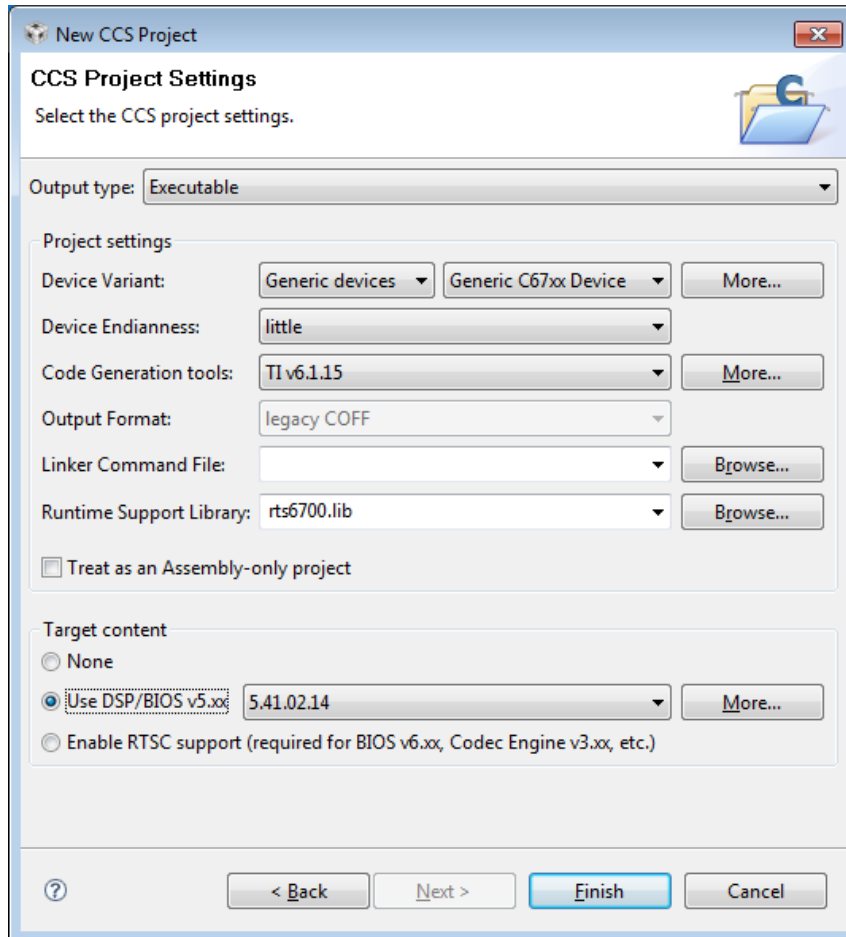

Figure 3: Final dialogue to set up project
- Hit **Next** twice (i.e. ignore the dialogue regarding **Additional Project Settings**.) Set up the dialogue as shown in figure 3. **An important change from lab 1 is that the Use DSP/BIOS radio button is selected.** This is a **significant change**. For this lab and subsequent ones you will be using the **DSP/BIOS configuration tool** to simplify some of the tasks required for creating working programs. The configuration tool is a graphical environment for modularly adding the software components you require for a particular project. For this lab we are using the configuration tool to automatically handle memory mapping but we will extend the use of the configuration tool in later labs – to assign interrupts). ¹